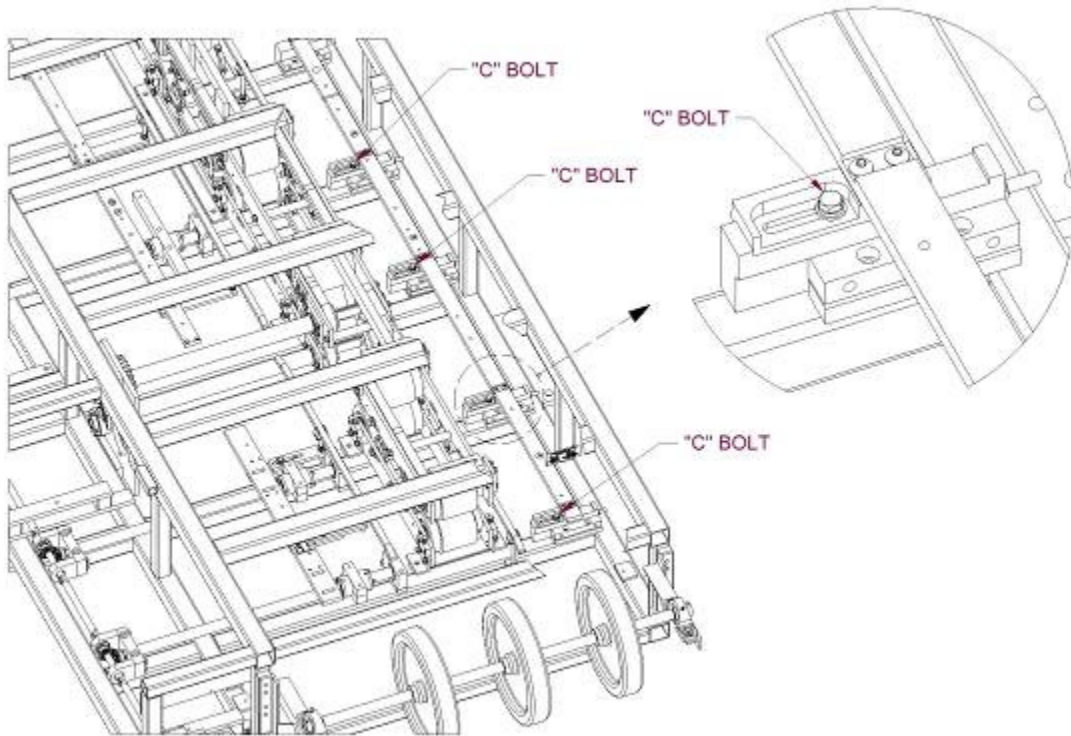
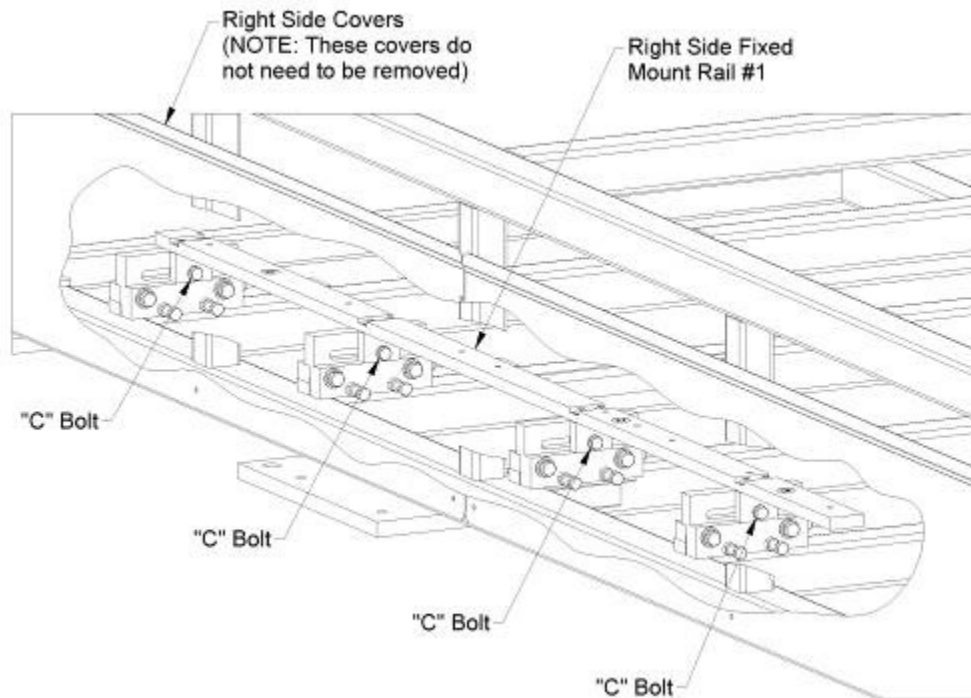

Figure 41: April 2009 and later
Figure 42: Machines made before April 2009
4. Loosen bolt "C" on the first 4 Slide Block assemblies (Figure 41 or Figure 42).
5. Once all 4 bolts are loose, slide the Right Side Fixed Mount Rail #1 to the correct position (Figure 43), either “inboard” or “outboard”. Make sure that it is fully in position and then tighten the “C” bolts (Figure 41 or Figure 42).